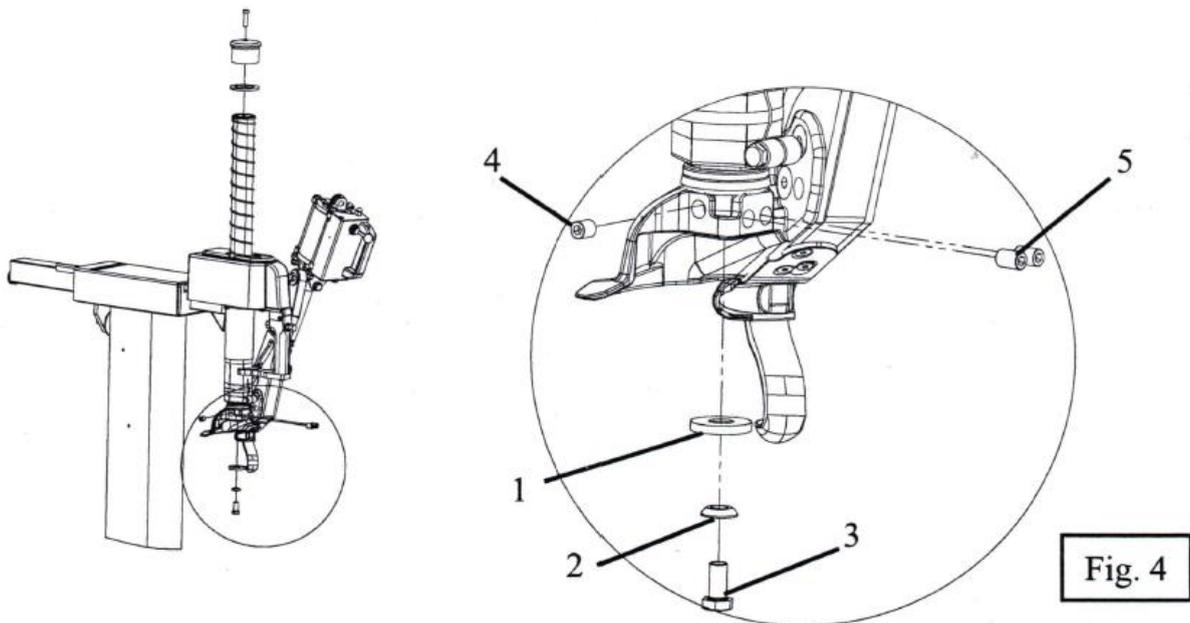

Fig. 4
- Referring to the figure 4, install the spring (2/fig.1) onto the hexagonal arm. Make sure to put the washer (4/fig.1) on the spring;
- Install the lever less device onto the hexagonal arm and fit back the washers (1/fig.4 and 2/fig.4) and screw (3/fig.4) as shown in the figure 4. Do not tighten the screws at this moment;
- Fit the screws (4/fig.4 and 5/fig.4) onto the mounting head as shown in the figure 4. Do not tighten the screws at this moment.
- Unscrew the screw (4/fig.4) and adjust the mounting head horizontal to the rim;
- Unscrew two screws (5/fig.4) and adjust the mounting head to make the front section of the mounting head rest the edge of rim and the rear section is 3 mm from the rim;